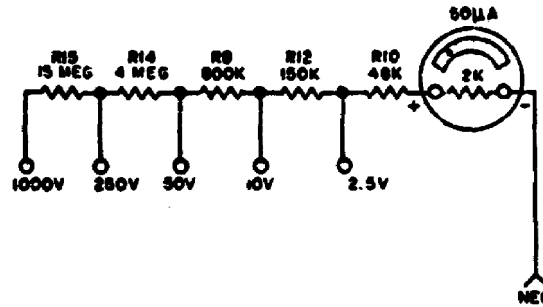

Figure 9. DC voltmeter.
c. A 2,000-ohm (2K), 50 microampere (50 $\mu$ A) meter movement is being used in the circuits illustrated in figures 9 and 10. The 2K states the internal resistance of the movement and the 50 $\mu$ MA states the amount of current required to deflect the movement's needle to the full scale mark. By using Ohm's law the voltage across the meter, when the meter is indicating full scale, can be determined:
d. Figure 9 shows the simplified schematic diagram of a typical DC voltmeter. The meter movement and associated circuit provides voltage measurement ranges of 0-2.5VDC, 0-10VDC, 0-50VDC and 0-1,000VDC. When 2.5VDC is correctly applied between the negative meter input and the 2.5V Jack, 50 $\mu$ A will flow in the circuit and the meter will deflect to full scale. The current is limited to 50 $\mu$ A by the combination of the 48K resistance in the circuit and the 2K resistance of the meter movement.
e. Organizational maintenance personnel should be able to isolate the cause of simple meter malfunctions. The meter shown in figure 9 responds to voltages applied on the 2.5VDC, 10VDC and 50VDC ranges, but the pointer remains at zero when voltage is applied to the 250VDC or the 1,000VDC ranges. What is wrong? The answer to this question should be obvious to organizational maintenance personnel. When requesting repair they would state "R14